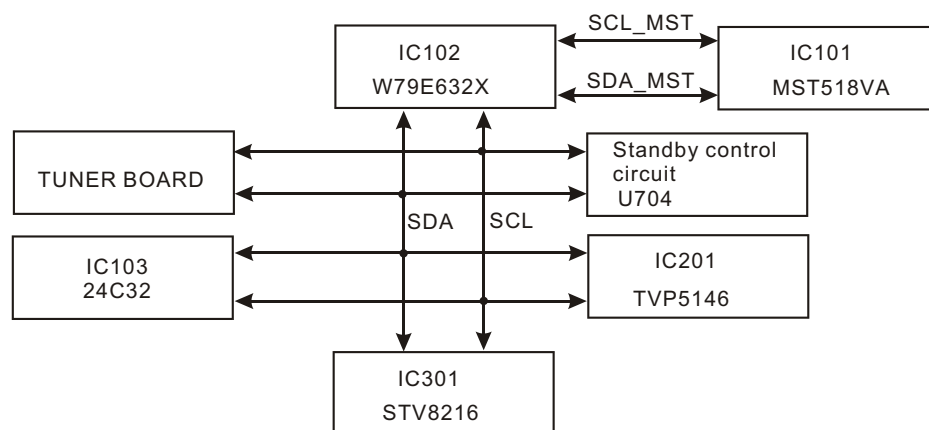

Figure 3.2.1.4 IC main line control circuit block diagram
(1) IIC main line control circuit is shown in the figure 3.2.1.4: